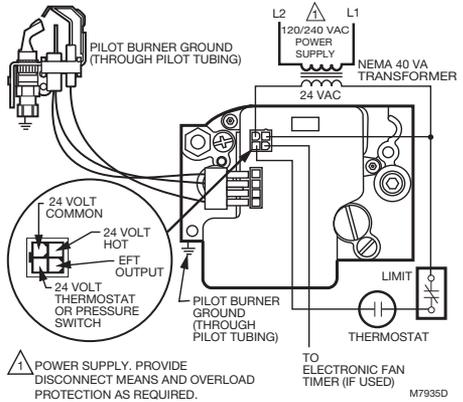

Fig. 8. SV9401/SV9402/SV9403, SV9501/SV9502/SV9503, SV9601/SV9602 basic wiring diagram.
2. Connect control circuit to the ignition system control using the keyed plug connector. See Fig. 8 through 11.